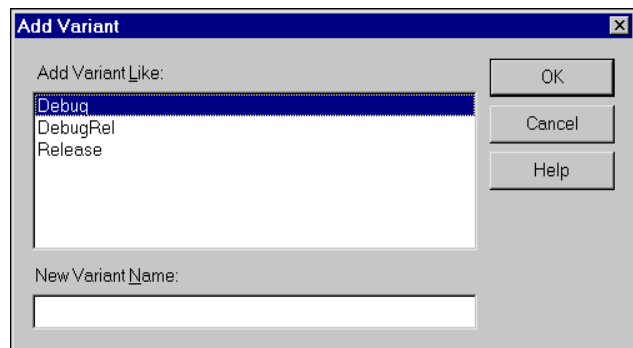

Figure 2-10 Add Variant dialog
1. Select **Add Variant** from the **Project** menu. The Add Variant dialog is displayed (Figure 2-10).